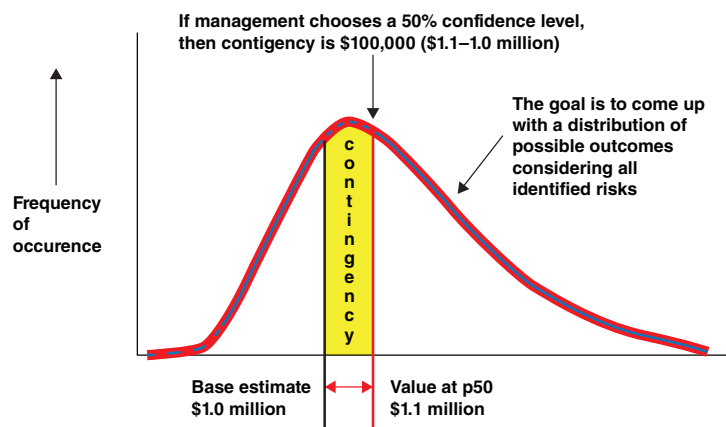

FIGURE 4. A probabilistic cost distribution can be used to determine contingency
comes. With a specific distribution and base estimate value in mind, contingency is simply the cost that must be added to get a desired probability of underrunning the total, as shown in Figure 4. Management will decide on their desired probability. Probability of underrun levels from p50 to p70 are common, depending on how risk-tolerant or risk-averse the company's management is. Note that contingency has no effect on the project's cost distribution or absolute cost range. Those are fixed attributes of the project and its uncertainty profile as it stands at that point in time. From the distribution, a worst-case value can also be obtained for sensitivity analysis (for instance, p90).
So how can engineers come up with a probabilistic cost distribution like the one shown in Figure 4? Since the 1980s, when the first Monte-Carlo simulation (MCS) add-on for spreadsheets was introduced, the traditional answer was a method called line-item ranging (LIR). This method involves assigning low and high range values (ends of triangular distributions) to one's cost-estimate line items, and running the MCS software. However, LIR has been discredited by research. It fails because it violates a first principle of risk analysis; it does not "quantify the risks." LIR does not make a risk-to-impact link. Teams cannot intuitively, and
The two methods above produce a point value and worst-case for contingency. However, the best practice, as shown in Figure 4, is to develop
MCS application description is beyond the scope of this article. However, for those with knowledge of the practice, a simple MCS model can be developed by applying MCS to Equation (3). This is done by replacing the systemic contingency percentage and each PS risk-impact estimate in the worksheet with distributions per the software procedure, and simply running the simulation. The Table 5 method provides the most-likely, and p10/p90 values for systemic contingency percentage. The team, in their project-specific risk workshop, will not only estimate the most likely impacts, but the low and high range as well. The MCS software will generate a distribution similar to that in Figure 4.
If the company shares a common view about contingency, then communication can focus on making sure that management understands the risks’ drivers and their relative impacts. Per Figure 4, contingency is selected by management decision-makers based on their risk tolerance. Ideally, risk-analysis will be done well ahead of the funding decision, so that the team has time to recycle plans to manage risks and impacts that are found to be unacceptable. The methods in this article facilitate risk communication and treatment because they are risk-driven, meaning that the risks and impacts are explicitly linked. ■